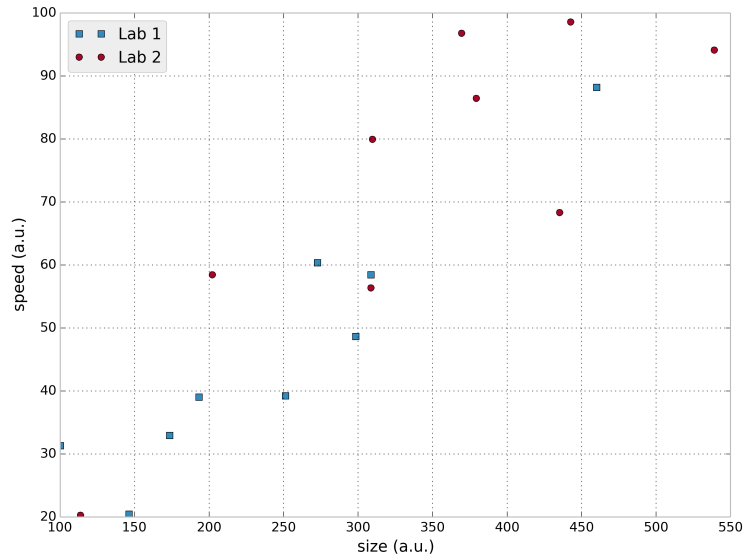

Figure 2: The datapoints collected from the two labs.
B) Your lab (Lab 1) is studying a rare type of particles. Using particles with different sizes your lab took measurements of their speed. You wanted more data so you asked a cooperating lab (Lab 2) to share their measurements with you (figure 2). Lab 1 was using a measuring instrument with the Gaussian error $e_1 \sim \mathcal{N}(0, 10)$, while the error of Lab 2 measurements was $e_2 \sim \mathcal{N}(0, 20)$. You want to find out what's the linear relation between the speed of a particle and its size. Which regression method should you use, and how would you use it?